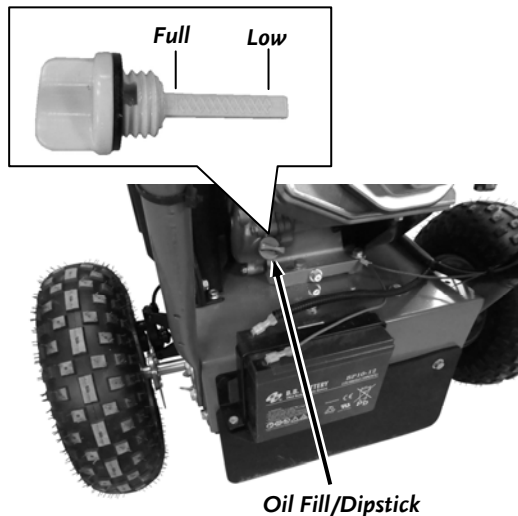

Figure 33
2. Remove the Oil Fill/Dipstick (**Figure 33**).